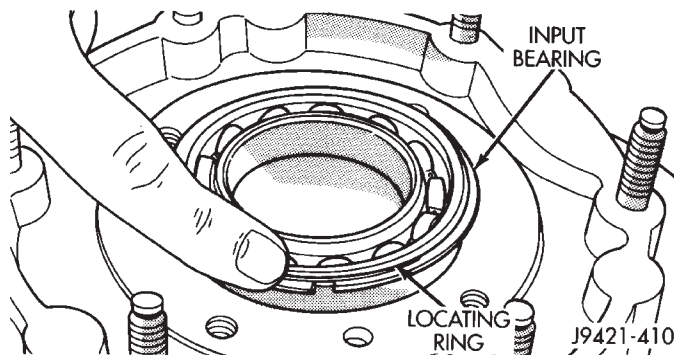

Fig. 46 Input Bearing Locating Ring Position
(1) Start input bearing in front case bore. Verify that locating ring is installed on bearing (Fig. 46). Note that bearing can only be installed from case exterior because of the ring which controls depth of installation.